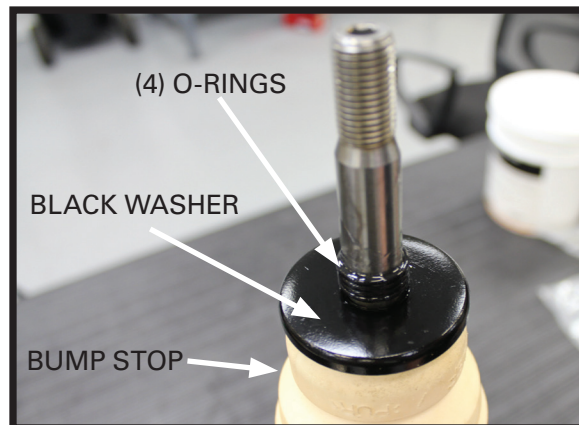
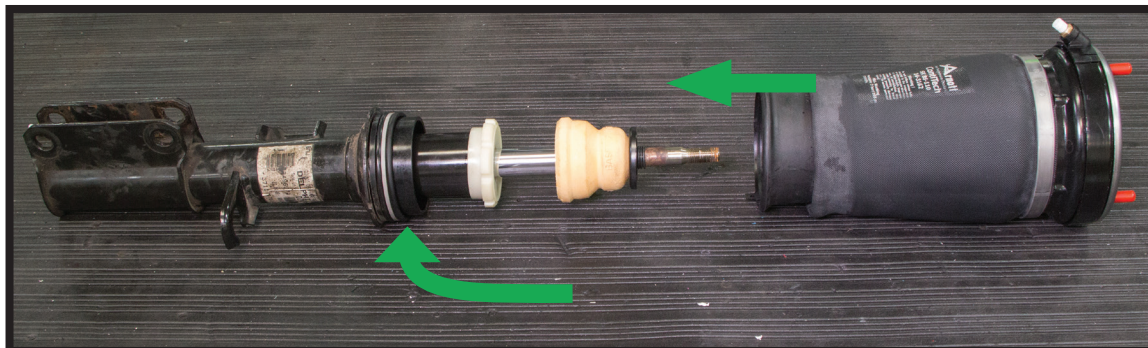

FIGURE 11
FIGURE 12
5. INSTALL THE NEWLY SUPPLIED BUMP STOP, BLACK WASHER AND FOUR (4) O-RINGS. (FIGURE 11) APPLY A SILICONE BASED LUBRICANT ON THE O-RINGS PRIOR TO INSTALLING AIR SLEEVE ASSEMBLY. INSTALL THE NEW ARNOTT[®] AIR SLEEVE ASSEMBLY ONTO SHOCK WITH THE ALIGNMENT PIN IN THE SAME ORIENTATION AS THE OLD AIR SPRING. (FIGURE 12)